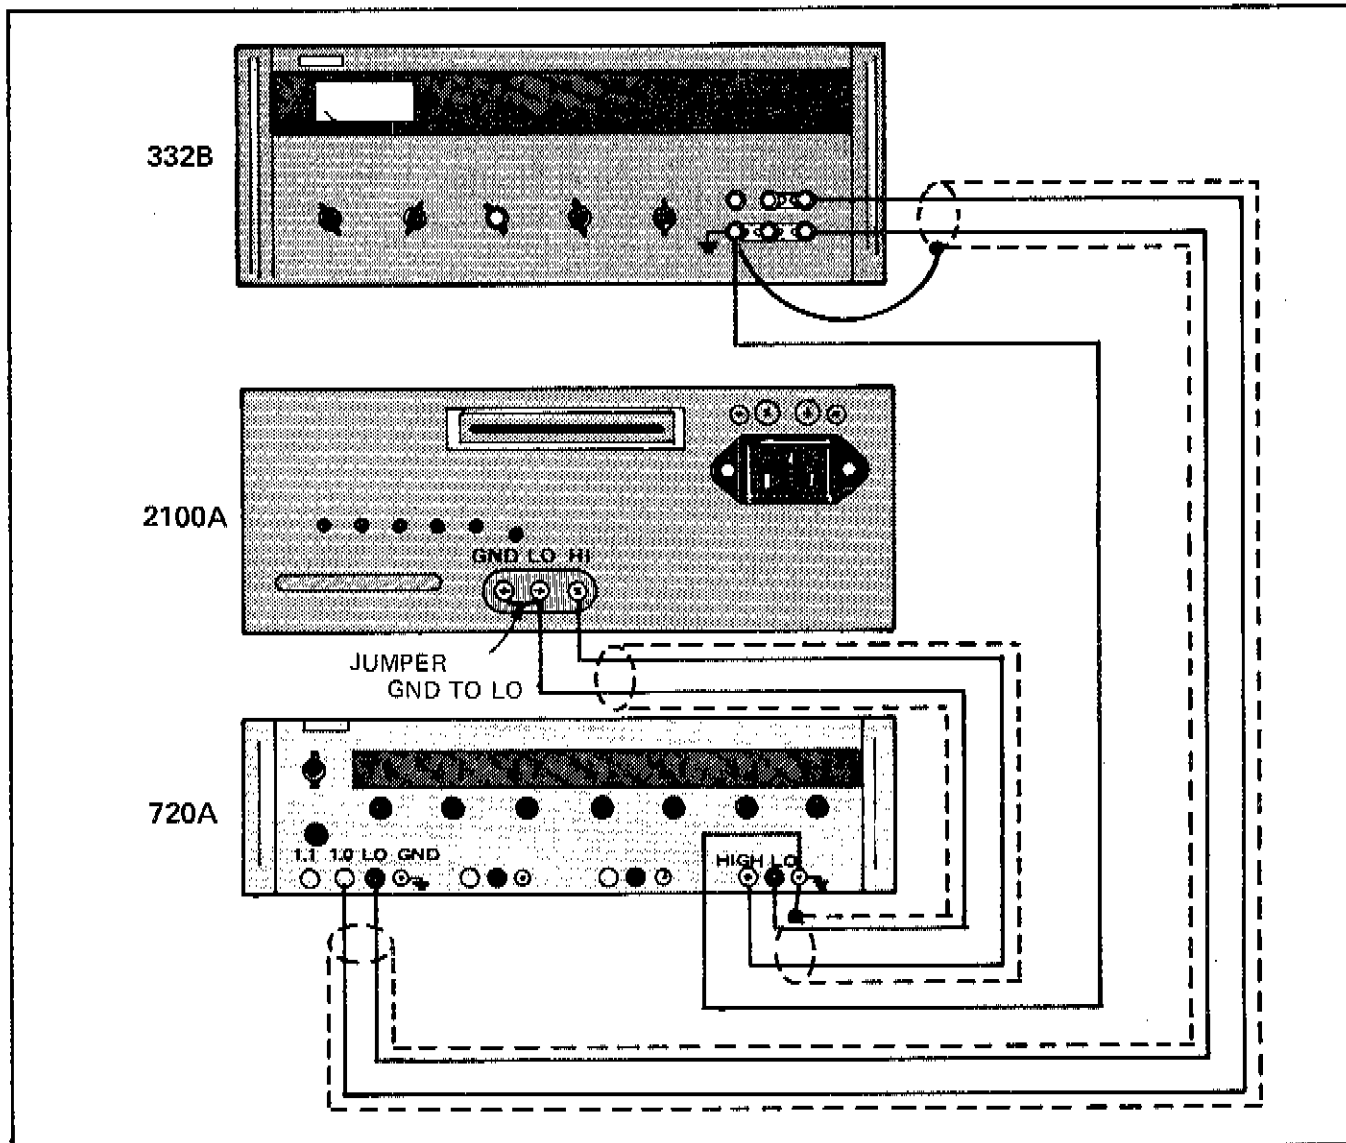

Figure 4-3. CALIBRATION EQUIPMENT CONNECTION
- Connect the test equipment as shown in Figure 4-3.
4-28. Refer to Figure 4-3 for the correct calibration equipment connections for this procedure. Table 4-3 provides the value of the inputs required for each thermocouple type.
4-30. Refer to Figure 4-3 for the correct calibration equipment connections for this procedure. Table 4-4 provides the value of the inputs required for each thermocouple type.
4-32. The following procedure must be done with the linearizer jumper installed. A step-by-step installation procedure for the jumper is provided. Table 4-5 lists the inputs required for each thermocouple type and voltage range. Refer to Figure 4-3 for the correct calibration equipment connections for this procedure.